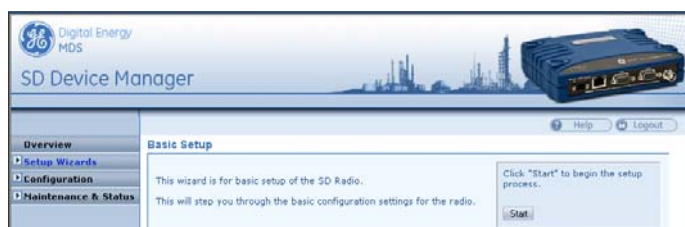

Figure 7. Basic Setup Wizard
4. The Basic Setup Wizard (Figure 7) begins automatically upon connection to a new factory shipped radio. It displays a series of screens with key selections as follows: